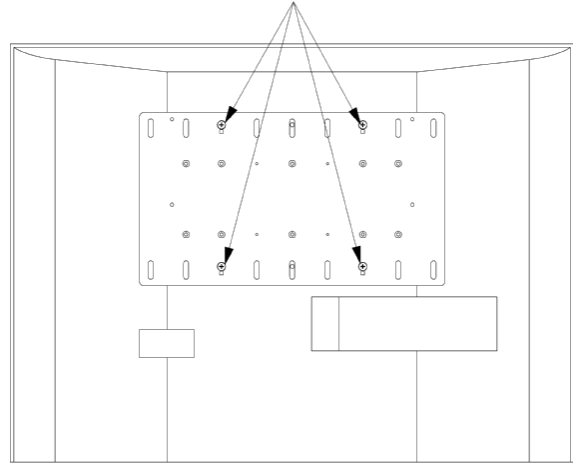
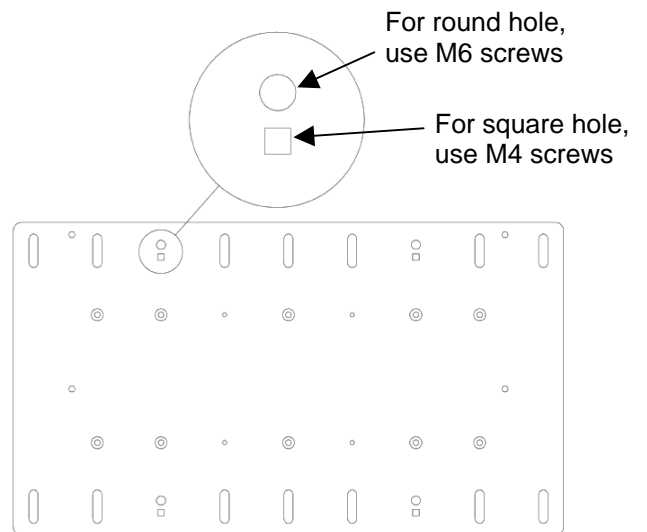

Figure 14. Display with 200mm x 200mm Hole Pattern
Figure 15. Select Round Hole or Square Hole As Needed
- a. If using square hole on interface bracket (20), select four Phillips head M4 screws from Bag A.
- b. If using round hole on interface bracket (20), select four Phillips head M6 screws from Bag B.
- c. Select spacers (140) or (150) from Bag C.
2. Attach the interface bracket (20) using the hole-pattern on the back of your display as shown in Figure 14 and Figure 15.